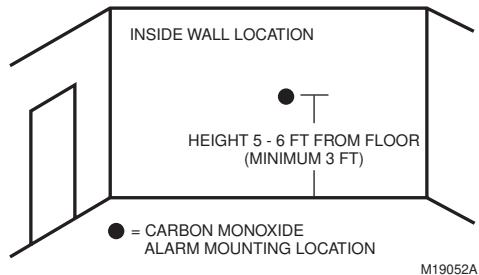

Fig. 3. CO alarm wall mounting location.
- Locate the top of the alarm at least 3 ft (.9 meter) from the floor. See Fig. 3.